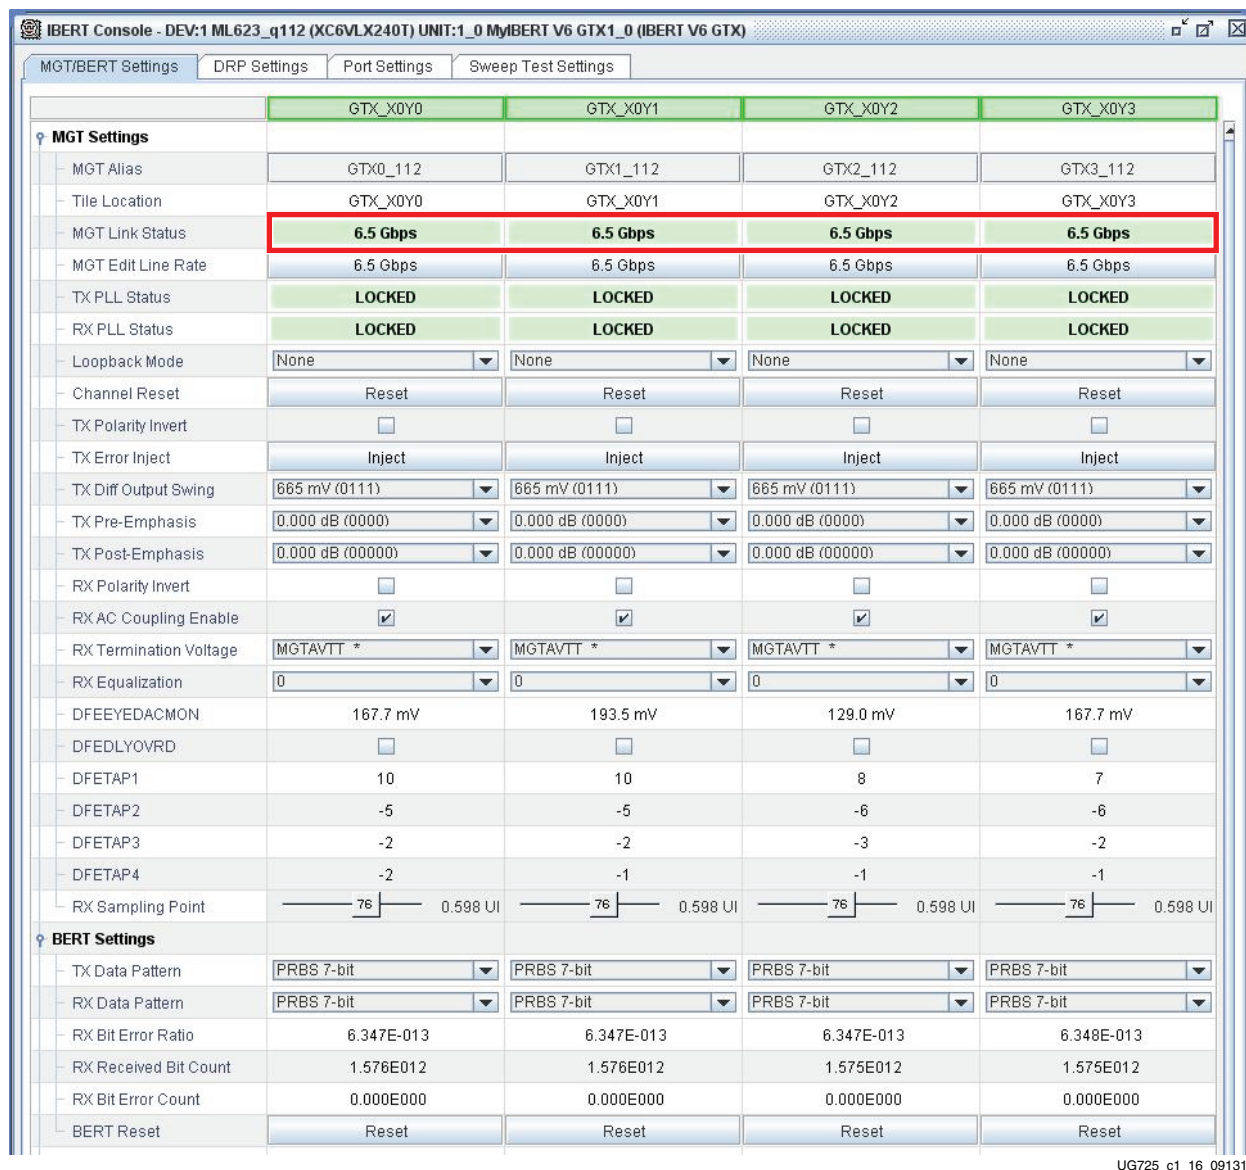

Figure 1-16: GTX Transceiver Link Status
- Note the line rate is 6.5 Gb/s for all four GTX transceivers (MGT Link Status in Figure 1-16).